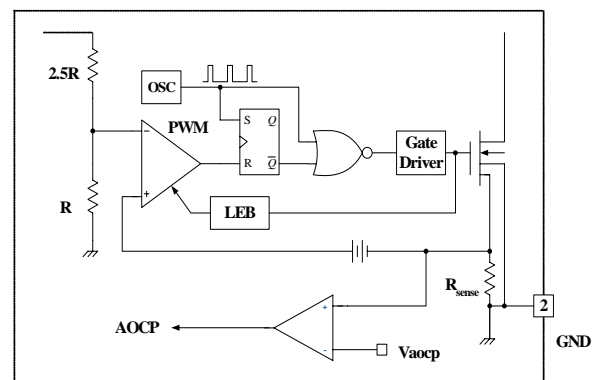

Figure 14. AOC Block
**4.2 Abnormal Over Current Protection (AOC):** When the secondary rectifier diodes or the transformer pins are shorted, a steep current with extremely high di/dt can flow through the SenseFET during the LEB time. Even though the FSCQ-Series has OLP (Over Load Protection), it is not enough to protect the FSCQ-Series in that abnormal case, since severe current stress will be imposed on the SenseFET until the OLP triggers. The FSCQ-Series has an internal AOC (Abnormal Over Current Protection) circuit as shown in Figure 14. When the gate turn-on signal is applied to the power SenseFET, the AOC block is enabled and monitors the current through the sensing resistor. The voltage across the resistor is then compared with a preset AOC level. If the sensing resistor voltage is greater than the AOC level, the set signal is applied to the latch, resulting in the shutdown of SMPS. This protection is implemented in the latch mode.